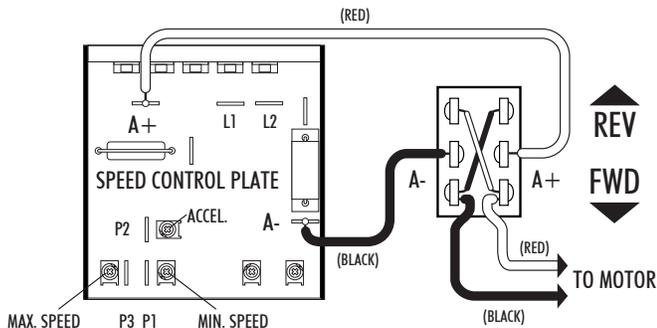

FIGURE 1—Wiring the switch to reverse motor direction. Also shown are lug attachment points and wire colors for the Sherline DC motor.
The modification requires adding a double pole, double throw (DPDT) switch to reverse the A+ and A- leads. The switch should be of at least 6 amp capacity. It is called a "mini toggle DPDT 6A @ 125 VAC." See Figure 1 for the proper way to wire the switch to accomplish this.
2. Solder the crossover wires from corner to corner on the switch terminals as shown in Figure 1. Cut the wires as short as you can to make this connection as compact as possible.
3. Solder ends of black and red motor wires to end terminals of switch as shown in Figure 1.
4. Solder new red and black wires to side (A+ and A-) terminals on the switch as shown in Figure 1. Crimp or solder on new female connectors to these wires.
5. Connect these to the A- and A+ terminals on the speed control board (See Figure 1 for locations).